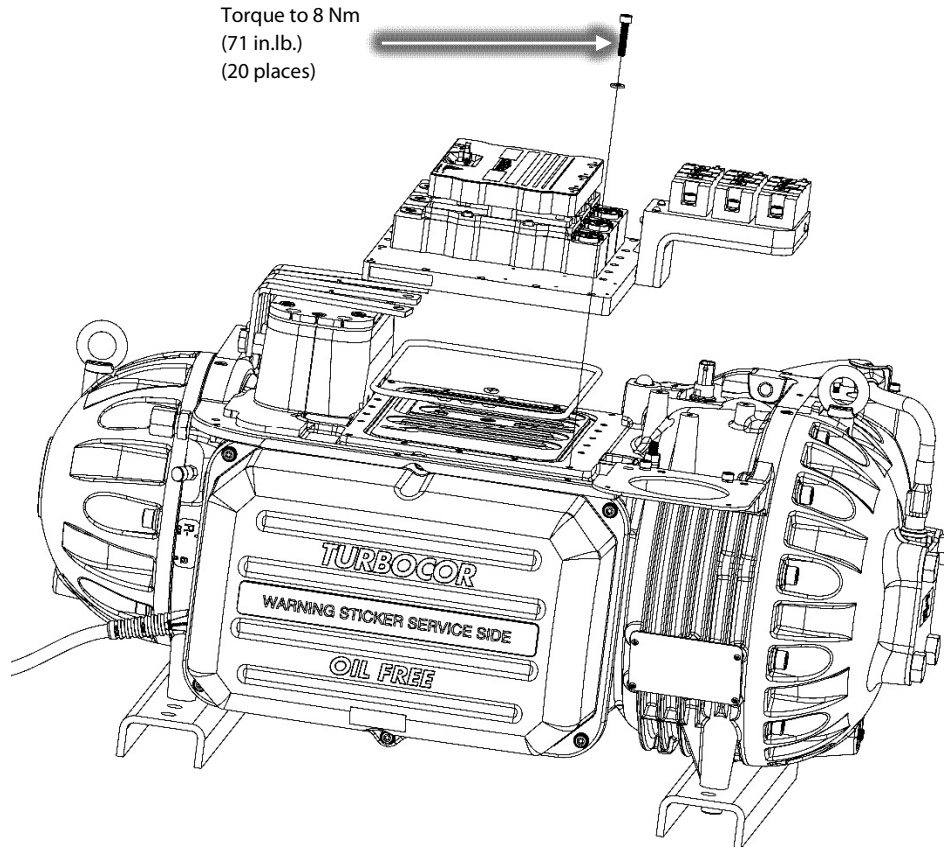

Figure 25 – Inverter Installation
- Carefully, install the Inverter on the compressor housing with the SCR temperature sensor cable run underneath the SCR cooling manifold. Refer to Figure 25 (Inverter Installation).